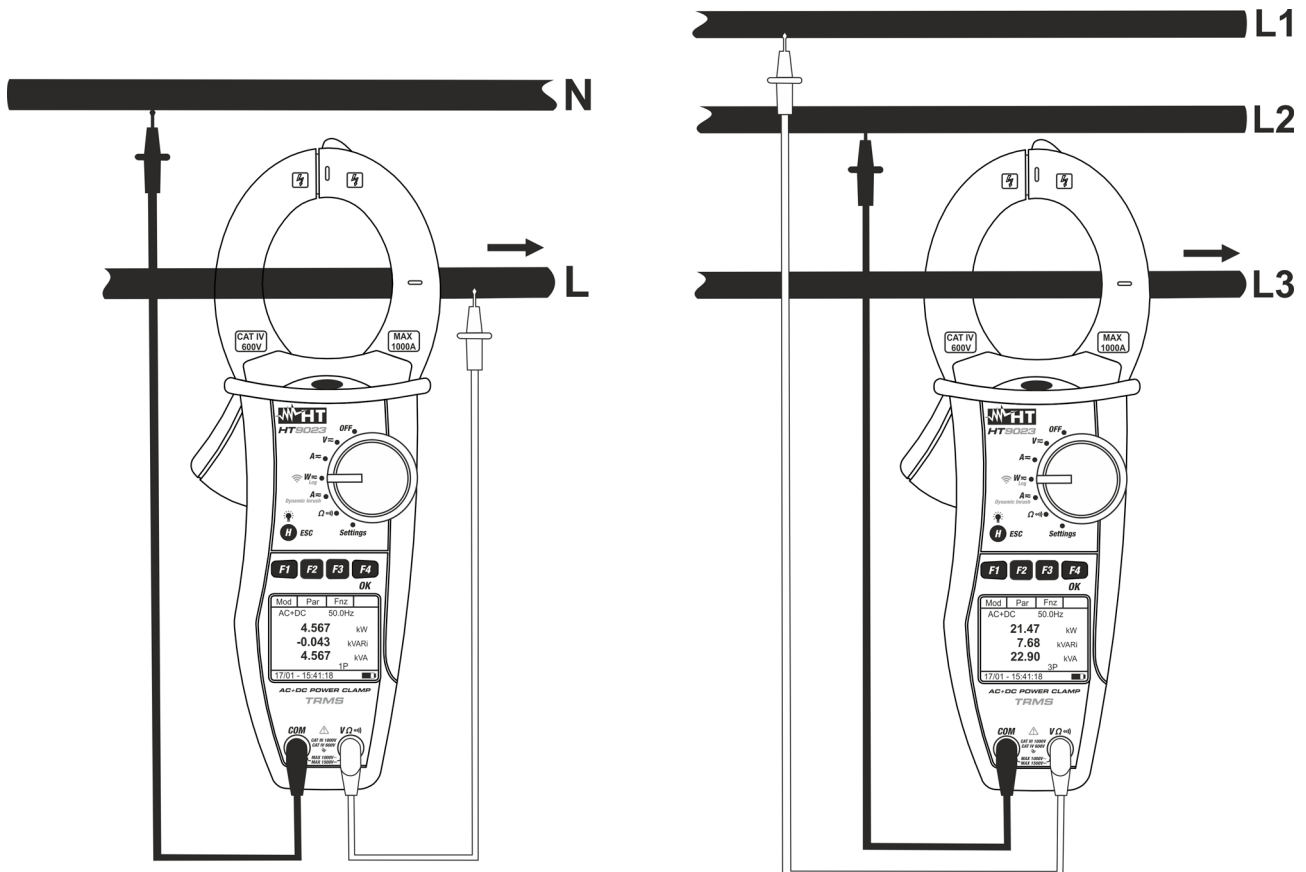

Fig. 13: AC/AC+DC power measure on Single phase and balanced Three phase systems
6. Connect red cable to input lead **VΩ¹** and black cable to input lead **COM** then perform the connection as indicated in Fig. 13 depending on the type of system under test. Put the phase cable into the clamp jaws respecting the direction of current indicated by the arrow (see Fig. 13). Connect the cable to the middle of the clamp jaws, in order to get accurate measurements. Use the marks as a reference (see Fig. 2)